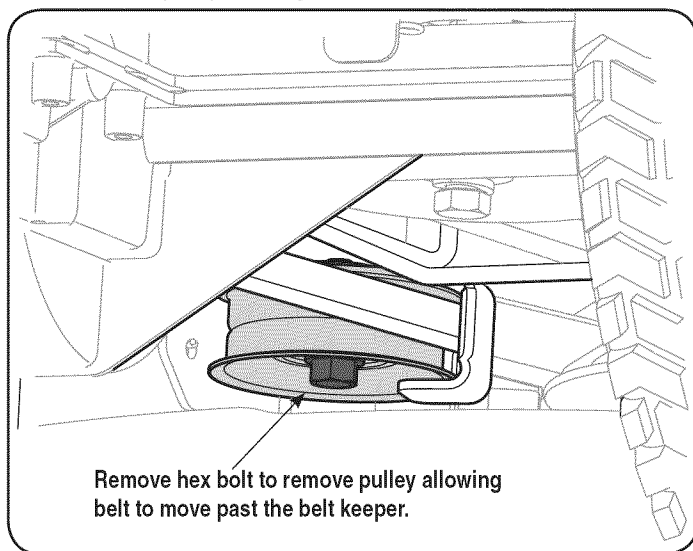

Figure 36
5. Remove the idler pulley by removing the hex bolt on the bottom side of the pulley. See Fig. 36.